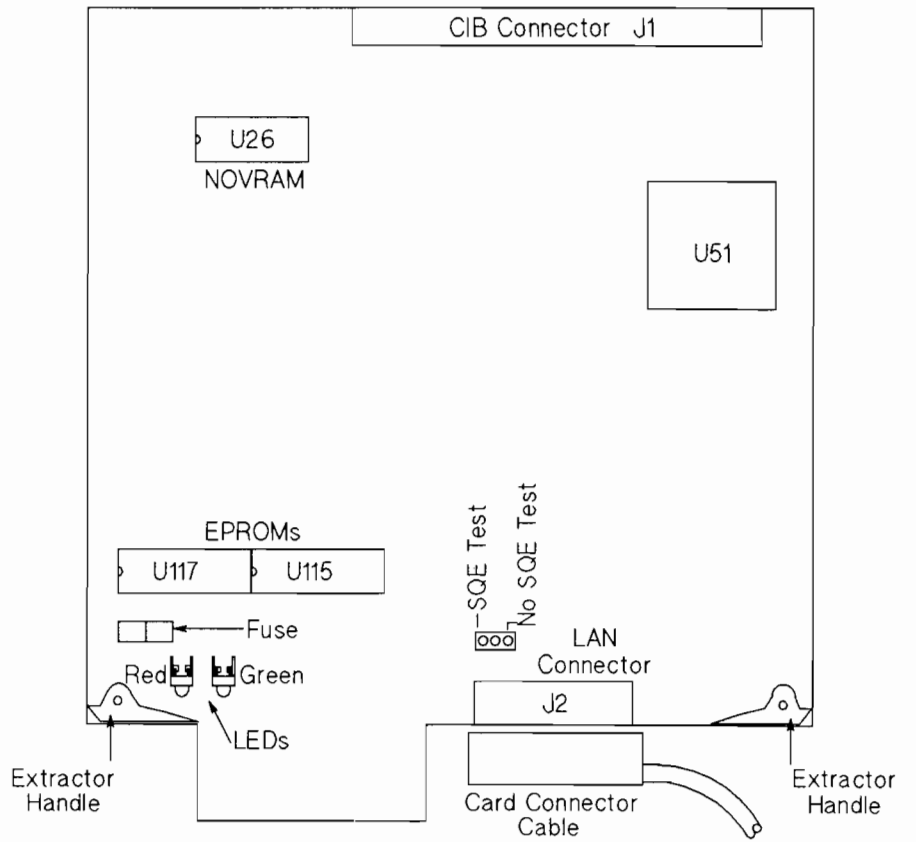

Figure 3-1. LANIC Card Key Component Locations
The NOVRAM is an integrated circuit (IC) mounted in a dual in-line package (DIP) at location U26. Refer to Figure 3-1 for approximate location.
The card contains a three-post SQE (Signal Quality Error) jumper located directly behind the LAN Connector (J2) shown in Figure 3-1. The placement of the shorting clip will determine if the SQE Test function is *enabled* or *disabled*. The SQE test function is an implementation of the IEEE 802.3 standard.
While the self-test is running, a red LED on the LANIC (see Figure 3-1 for approximate location) will light for approximately two seconds, then go out if the card passes self-test. When the LANIC self-test passes this point successfully, the test continues by checking the cables in an External Loopback Test. If the External Loopback test fails, the red LED will blink on and off for 32 seconds at 320 millisecond intervals (approximately 50 on-off pairs). This will likely mean that the card is